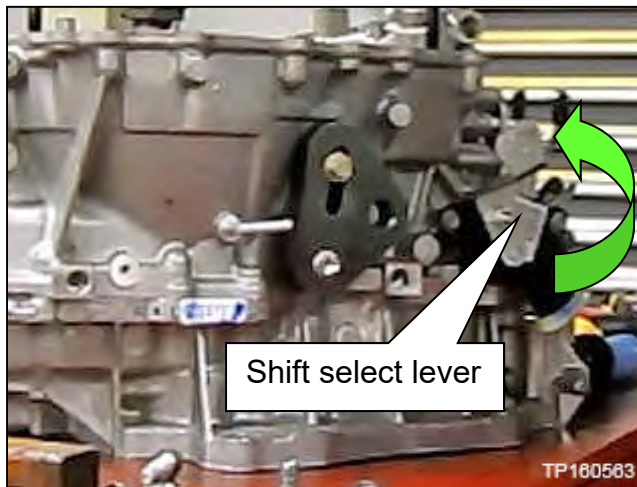
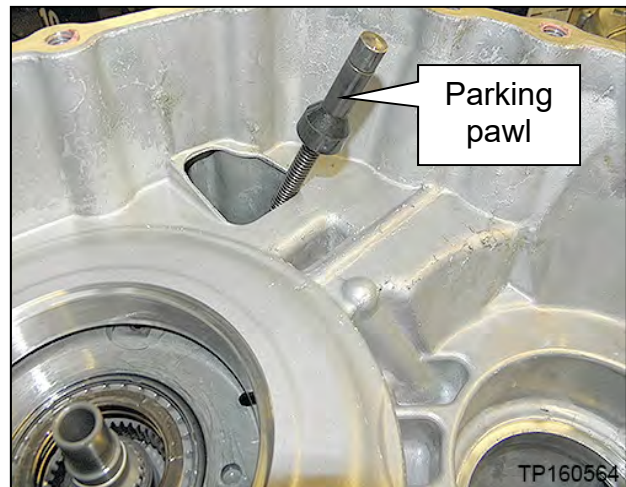

Figure 95
Figure 96
71. Rotate the shift select lever counter clockwise to the “L” range position (Figure 95), so that the parking pawl is at its lowest position (Figure 96).